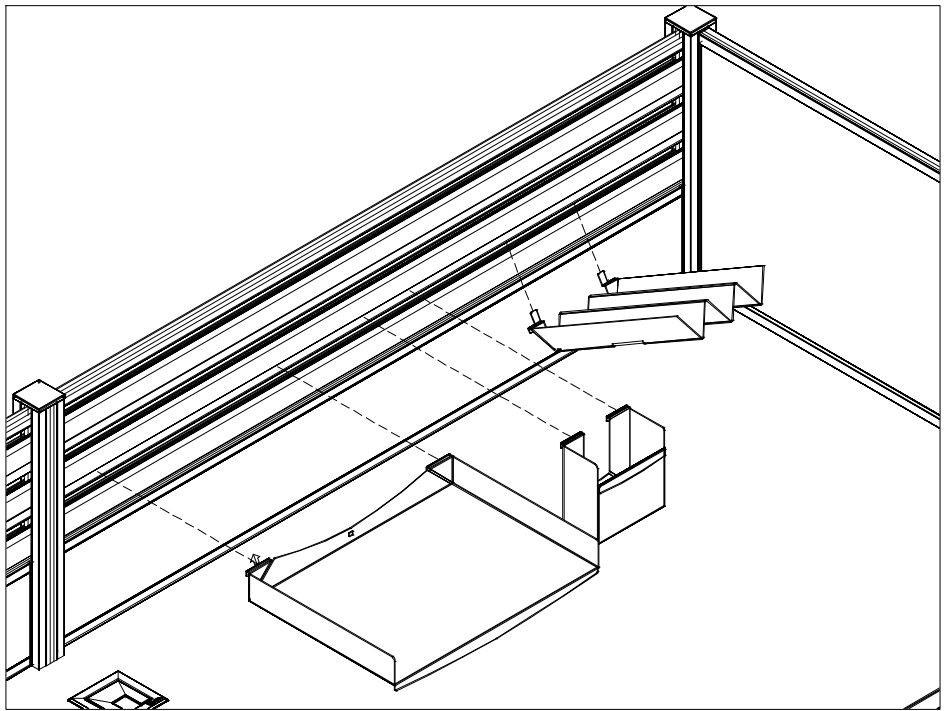

FIGURE 1
1. Hang the work organizer at their desired location into the accessory bar channels and push it down. For the paper sorter, angle it at 30 degrees; place the hooks at their desired location into the accessory bar channels, release them down and the paper sorter base will be engaged, (Figure 1).